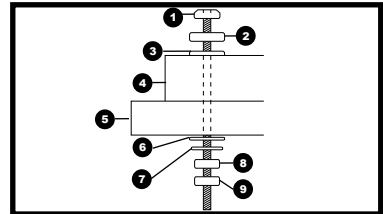

Fig 8
1) For stationary use, place the saw in the desired location, directly on a workbench where there is room for handling and proper support of the workpiece. The base of the saw has four mounting holes. Bolt the base of the mitre saw (1) to the work surface (5), using the fastening method as shown in Fig 8.